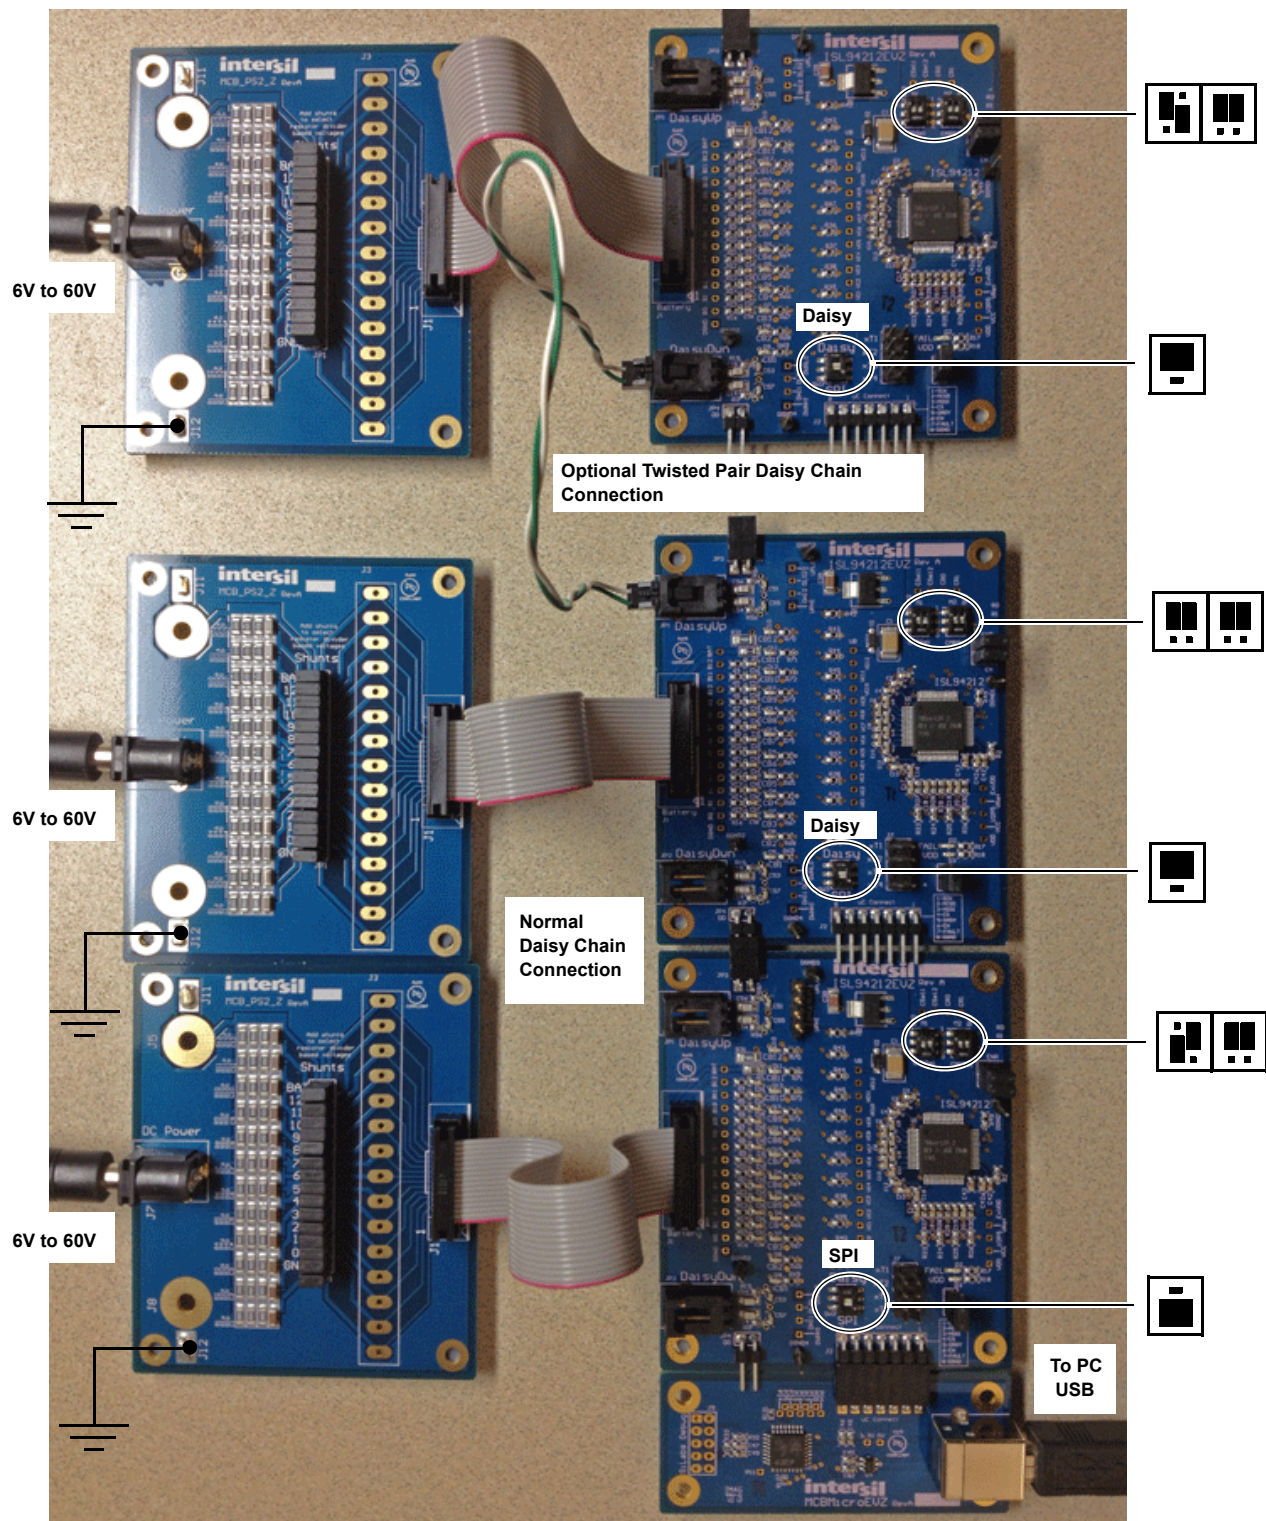
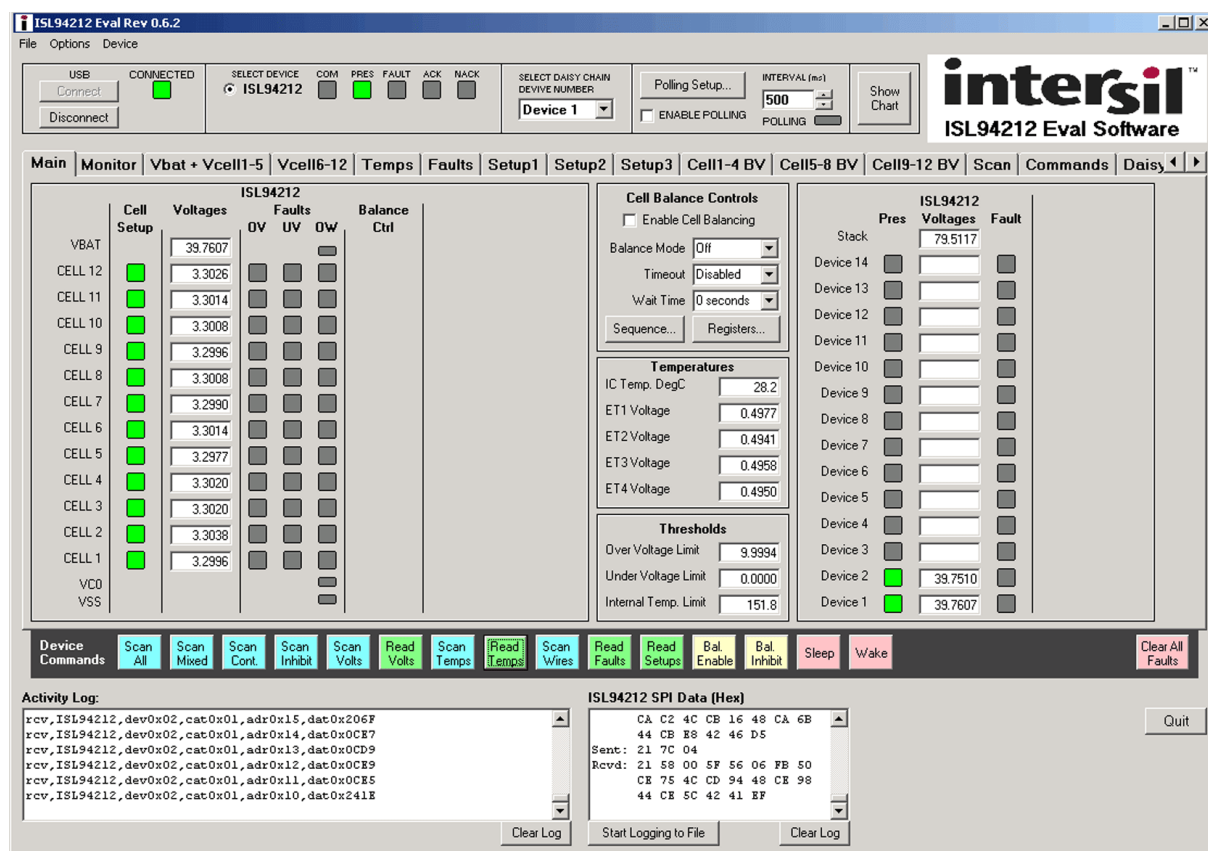

Figure 7. ISL94212EVZ in 36-Cell Daisy Chain Configuration
Figure 8. Main GUI Window - Two Cascaded Devices
2. Connect the MCB_MICRO_EVZ board (J1) to the Daisy Chain Controller ISL94212EVZ board (J2). (See Figure 7)
8. Connect the daisy chain wires. The boards can plug together to complete the daisy chain connections, or the enclosed twisted pair cable can connect the boards. Connect as shown in Table 2. See also the 36-cell daisy chain connection Figure 7. For a 24-cell connection, drop out the Middle board.
3. The GUI program identifies the devices connected, either in a single board, or a daisy chain configuration, (See Figure 8). *Note:* Figure 7 shows the daisy chain configuration.